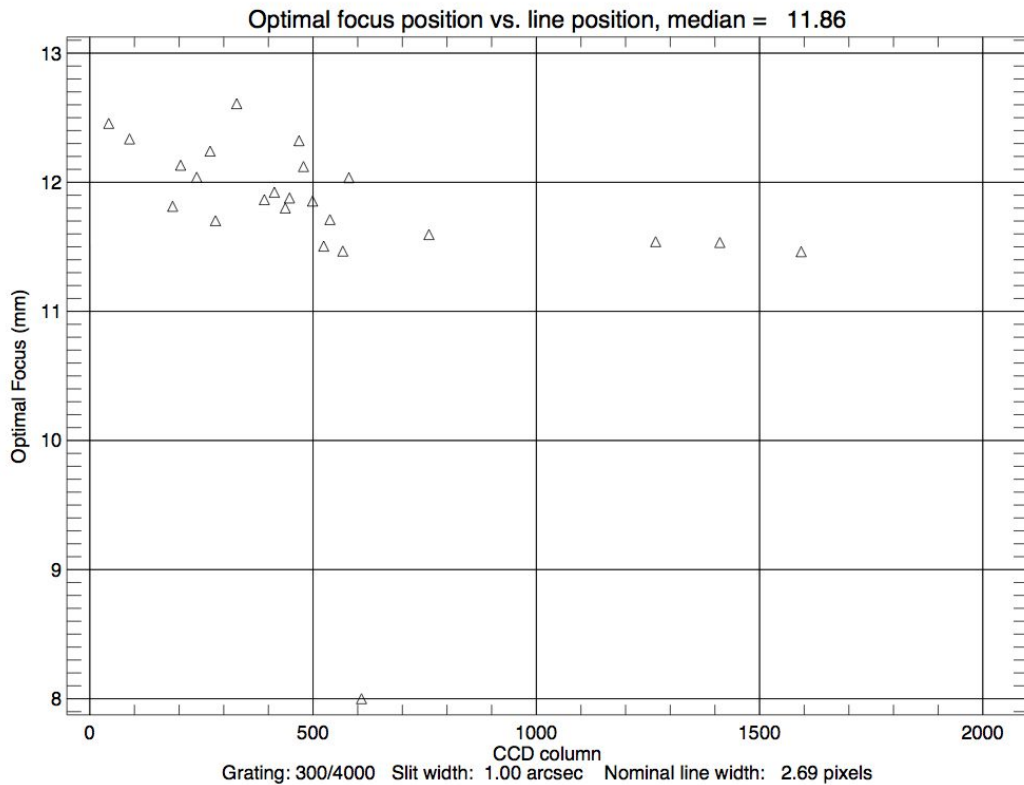

Figure 8. Example optimal focus vs. line position curve for the 300 g/mm grating. The median value is 11.9 mm.
- g. In this directory start IDL and run ‘dfocus’: IDL> dfocus. In about 15 s a window will appear that shows the distribution of nominal focus vs. column (see Figure 8), and the median value is printed in the title. If the result looks good (fairly flat distribution, often higher at the left), set the collimator focus to the median value. (A full output of the focus analysis is saved in the file ‘deveny.xx.xx.ps’ file in the focus directory, where one can examine the focus curves in detail to see if the range needs to be extended).